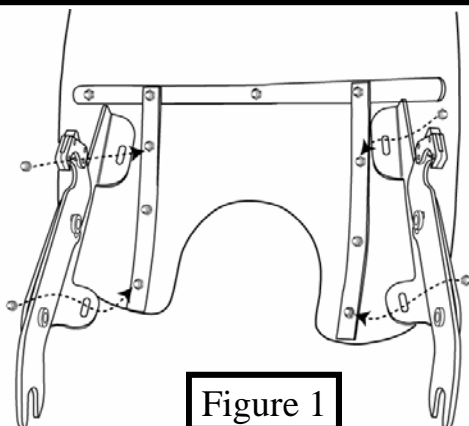

Figure 1
2. Attach the windshield to the windshield mounting plates using the bottom and third bolt on each side. Leave the Nylon washers off. The Mounting tabs should be pointing in towards the headlight when installed correctly. (See Figure 1)